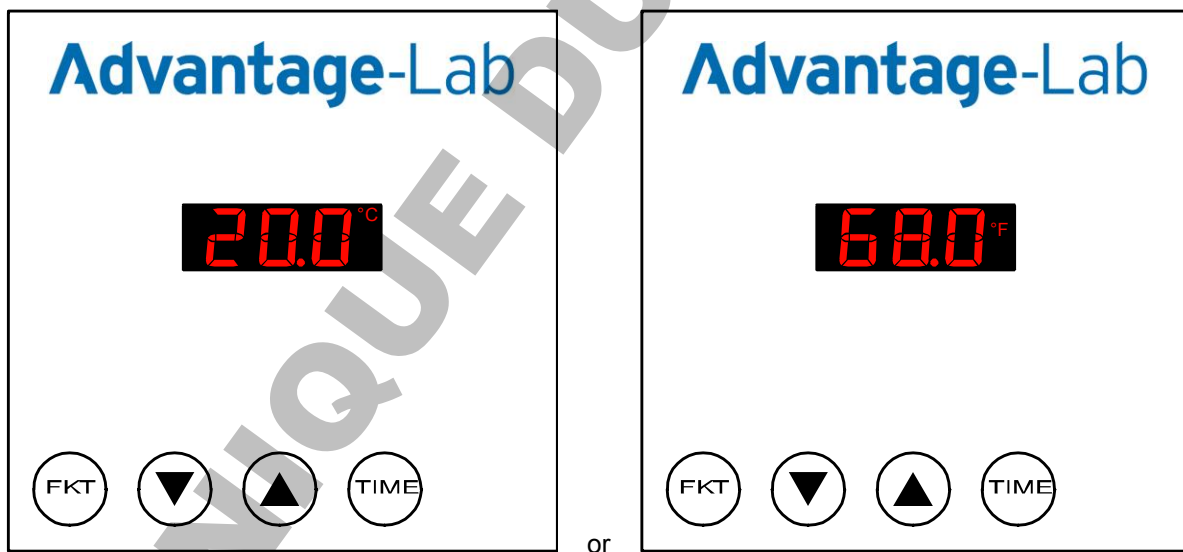

Figure 7: Basic mode: display is showing the current interior temperature (in °C or °F) (example)
After a few seconds, the display shows the current interior temperature of the AL01-06/07 (see example in Figure 7).
After 60 seconds without pressing any button the controller will automatically return to its basic mode displaying the current interior temperature (see Figure 7) with accepting every changed value.
- To go back to the basic controller display showing the current interior temperature (see Figure 7), press the <FKT> button repeatedly, or press the <FKT>+<▼> buttons simultaneously, or wait for 60 seconds without pressing any button.